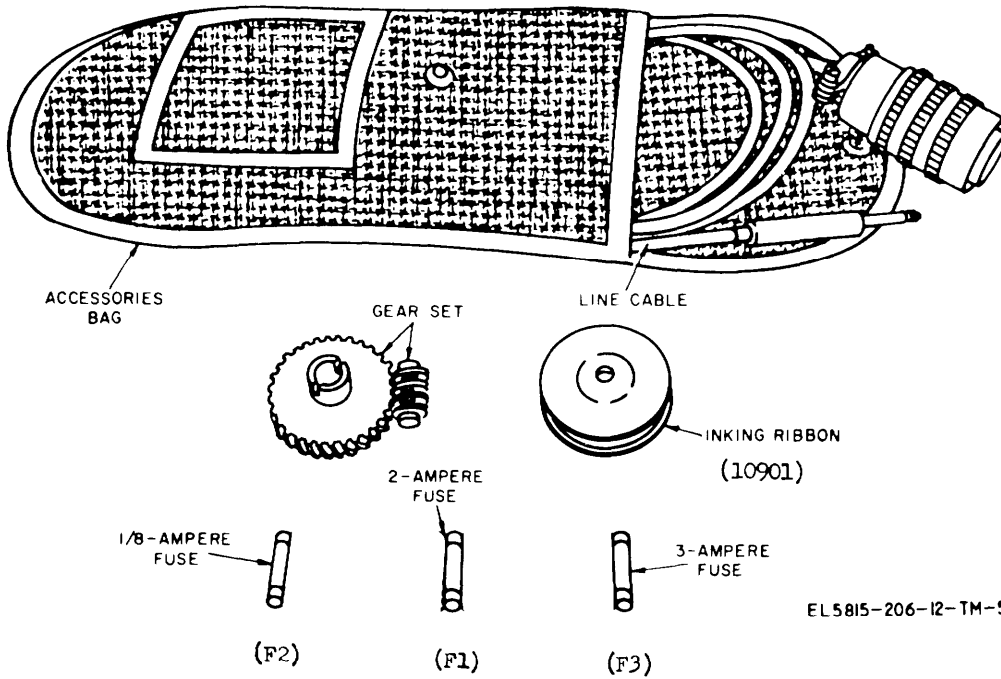
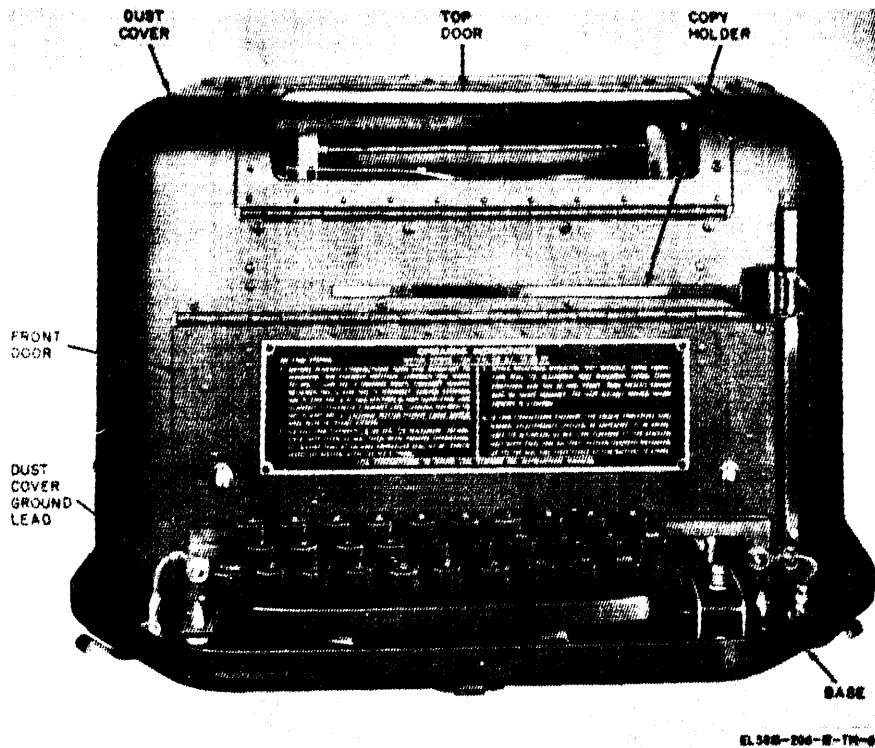
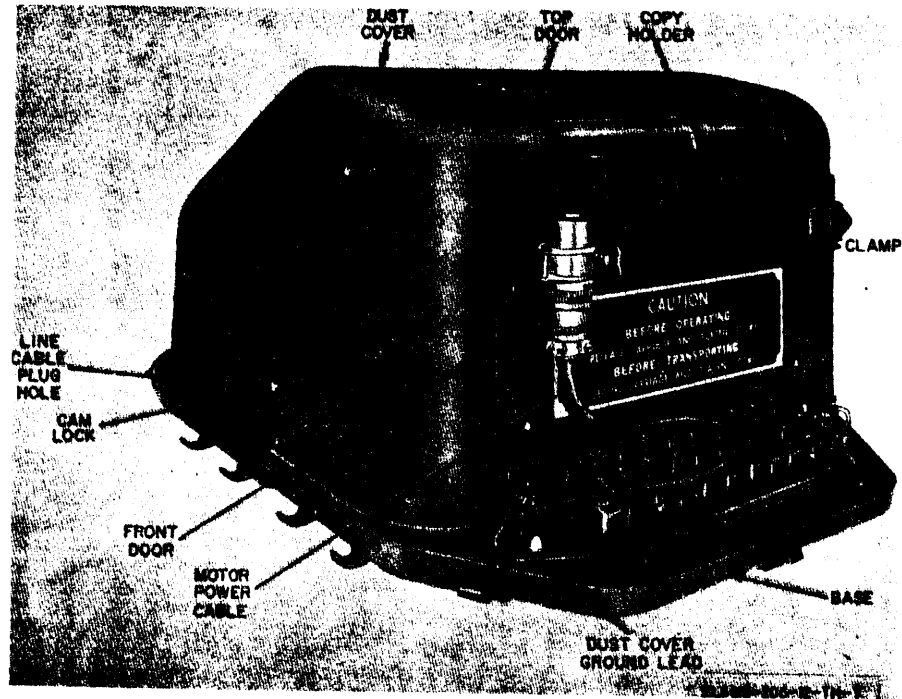

Figure 1-6. Accessories bag and contents (TT-537/G)
Figure 1-7. Teletypewriter TT-4(*)/TG or TT-698(*)/TG. dust cover installed. front cover.
Figure 1-8. Teletypewriter TT-537/G, dust cover installed, left front view.
a. The teletypewriter includes a send-receive teletypewriter (fig. 1-7), a wooden transportation and storage case (fig. 1-1), a dust cover (fig. 1-7), an immersionproof cover (fig. 1-11), a set of running spares (fig. 1-4), a tuning fork, mounted within the dust cover, and an accessory worm and worm gear (fig. 1-6). The teletypewriter base includes hooks for lashing the teletypewriter to a packboard for manual transport (fig. 1-11 and 1-
12). The immersionproof cover is held to the teletypewriter base with spring-loaded clamps. The dust cover includes a window, copyholder, operating instruction panel, and hinged doors (fig. 1-7).
(6) The TT-537/G is equipped with automatic carriage return and line feed which returns the carriage to the left margin of the unit, and provides a single and/or double line feed to prevent overprinting when the end of the line is reached.
(7) On the TT-537/G, the power cable is permanently wired to the teletypewriter. When the unit is packed to be transported, the power cable is wound around the dust cover and the connector is clamped to the clamping device on the left front of the dust cover before the immersionproof cover is installed (fig. 1-8). The line cable is shipped loose in a bag (fig. 1-6), and it is plug-connected, through a hole in the dust cover, to the teletypewriter line jack (fig. 1-8).
a. Packaging Data. The factory packaging arrangement of the teletypewriter set is suitable for either export or domestic shipment. The wooden box is 20½ inches high, 26¼ inches wide, and 26¼ inches deep. The volume of the wooden box is 9.5 cubic feet and the total weight of the packaged set is approximately 200 pounds. When only Teletypewriter TT-4(*)/TG, TT-335/TG, or TT-698(*)/TG is furnished, packaging is the same, except that Bag CW-356/U and the three cable assemblies (para 5a) are not included. When the TT-537/G is furnished, the wooden box is replaced with a triple-wall fiberboard carton and the accessories bag (fig. 1-6) with the line cable assembly is included.
- (1) Cut the steel straps with a pair of tin snips or other appropriate tool.
- (2) Remove the nails from the wooden box lid
b. Loosen the round knurled nuts and disconnect the dust cover ground leads from the front comers of the dust cover (fig. 1-7).
d. For the TT-4A/TG or TT-698/TG, grasp the rear corners of the dust cover, raise the rear of the dust cover to free it from the rear mounting posts, and lift it straight upward. Release the motor power cable connector from the dust cover of the TT-537/G (fig. 1-8). For all models, except the TT-4A/TG or TT-698/TG, turn the cam-lock assembly on each side of the dust cover and lift the cover straight upward.
(1) Signal-bell clapper at rear right-hand corner of teletypewriter.
(2) LTRS key lever and space bar on keyboard.
(3) Type basket above control panel.
(4) Motor power cord beneath paper-feed
a. *Motor Power Connection.* Connect the TT-4(*)TG motor power cord (fig. 1-10) to a source of 105- to 125-volt dc or ac (50- to 60-Hz single-phase) power. Connect the motor power cord of the TT-335T/TG to a source of 108- to 132-volt, 396- to 404 cps. single phase, ac power. Connect the motor power cable (fig. 1-7) of the TT-537/G to the mating connector on the computer source of 105- to 125-volt, 396- to 404-cps. single-phase, (para 2-3c). Connect the power cord of the TT-698(*)/TG (fig. 1-10) to a source of 105- to 125-volt ac (50- to 60Hz, single-phase) power.
b. *Protective Ground Connection.* Connect the braided metal pigtail on the plug of the motor power cord to a suitable ground connection point ((1) and (2) below).
(1) When *installing* the teletypewriter in an aircraft or on a vessel, connect the pigtail to a metal structural member of the aircraft or vessel.
(2) If the teletypewriter is to be installed at a ground communication site, connect the pigtail to a water pipe or other similar low-resistance ground (5 or 6 feet ground rod). Use a length of field wire or any available wire of equal or heavier gage. If a suitable ground connection point is not available, use one or more ground rods to obtain a low-resistance ground connection point, The ground rod (or rods) may be located as far as 1,000 yards from the teletypewriter. Select a low. damp site, preferably a spot where the soil is clay or loamy.